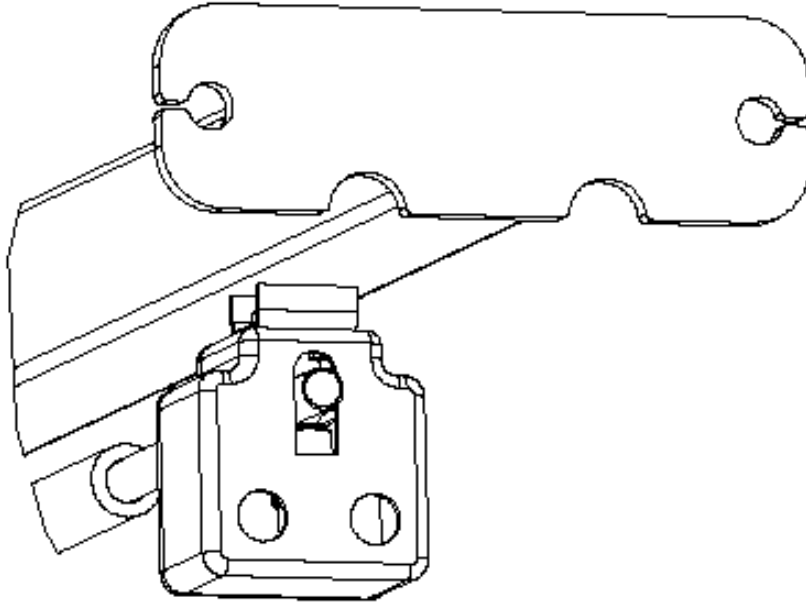

Figure 9
- * Using (2) $\frac{1}{4}$ -20 X $\frac{1}{2}$ HHCS and (2) $\frac{1}{4}$ -20 Flange Lock Nuts attach the overhead switch assembly to the overhead beam as shown in figure 9.